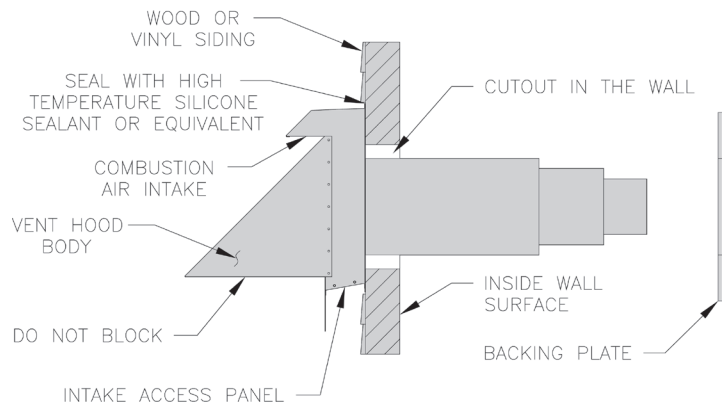

Figure 18: Vent Hood Body Installation
6. Wood or vinyl siding should be cut, so that vent hood base plate mounts directly on the wallboard to provide stable support. If siding thickness exceeds ½”, use a spacer bar or board behind the vent hood mounting (base) plate. See Figure 18.